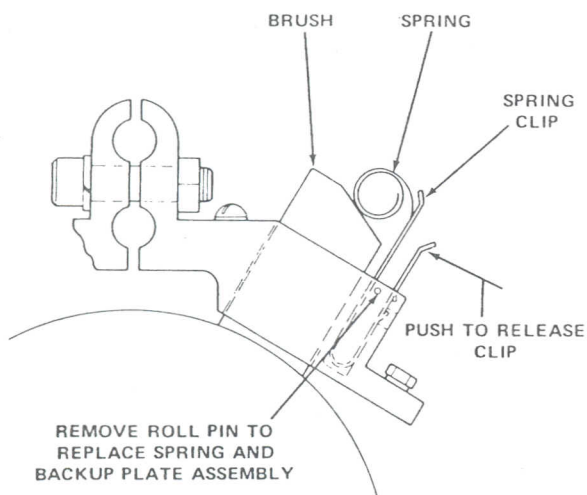

Figure 5-36. Constant Pressure Brush Assembly, AC Motors
7. A constant pressure spring assembly is utilized on newer AC motors (see Figure 5-36). No periodic adjustments are required when this type of spring is used. If for any reason spring tension has been lost, replace the spring and backup plate assembly as shown in Figure 5-36.